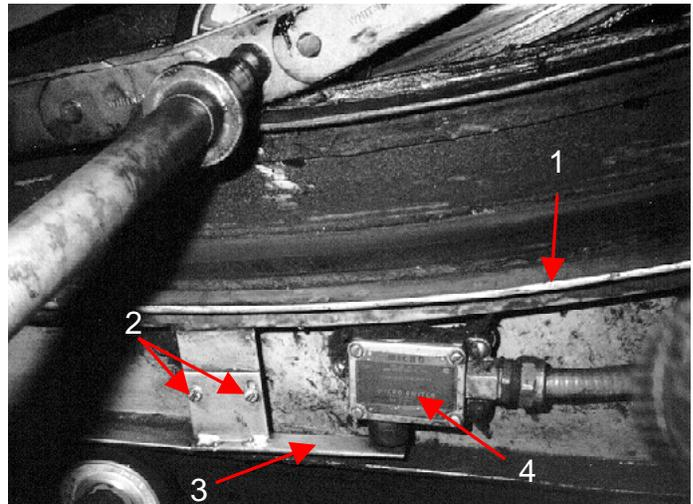

Figure 8-10e Westinghouse Escalator
92. To get one point, match all the parts below with the numbers in figure 8-10e.
93. What is the clearance between part #3 and the plunger of part #4 in figure 8-10e?
94. How would you set the clearance between part #3 and part #4 in figure 8-10e?
95. What will happen in figure 8-10e if the steps at the lower curve were jammed? The step ____.